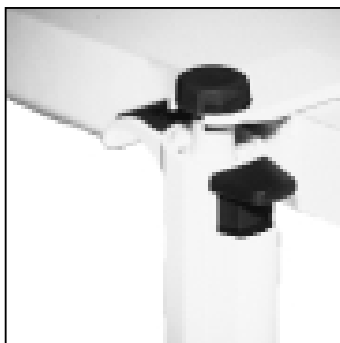

Fig. 2B
4. Place the pipettor onto the holder as shown in Figure 2B.